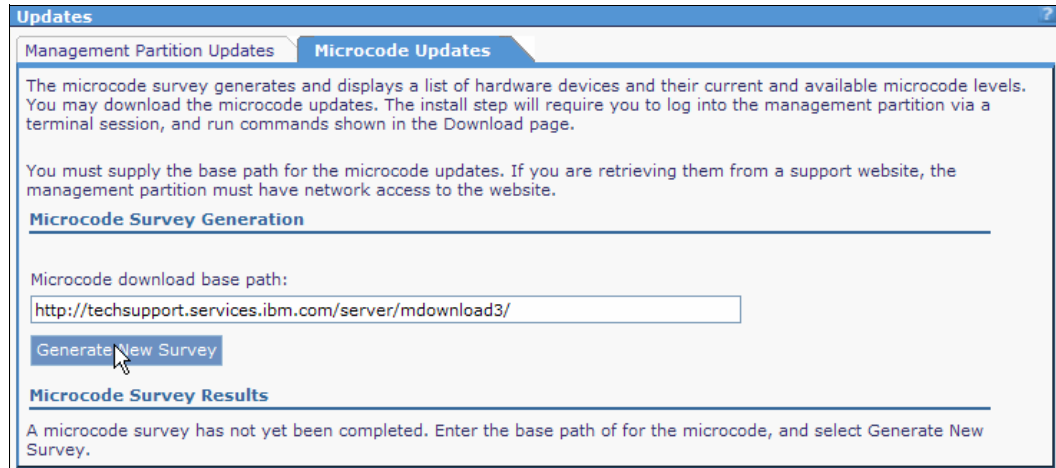

Figure 5-23 Microcode Survey Results
2. Click **Generate New Survey**. This action generates a list of devices, as shown in Figure 5-23.